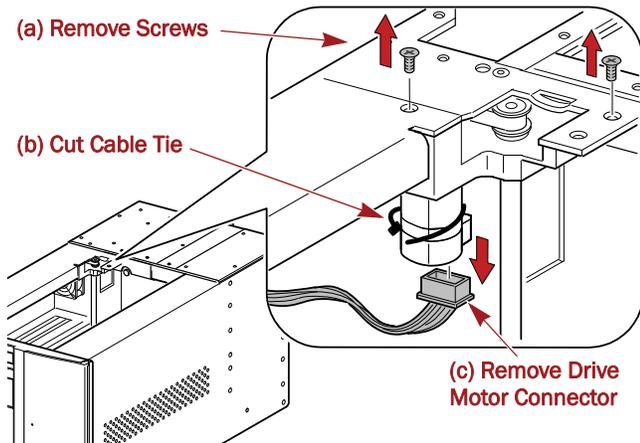

Figure 13. Remove the Upper Z-Axis Items
a. Remove the **two mounting screws** (Figure 13).